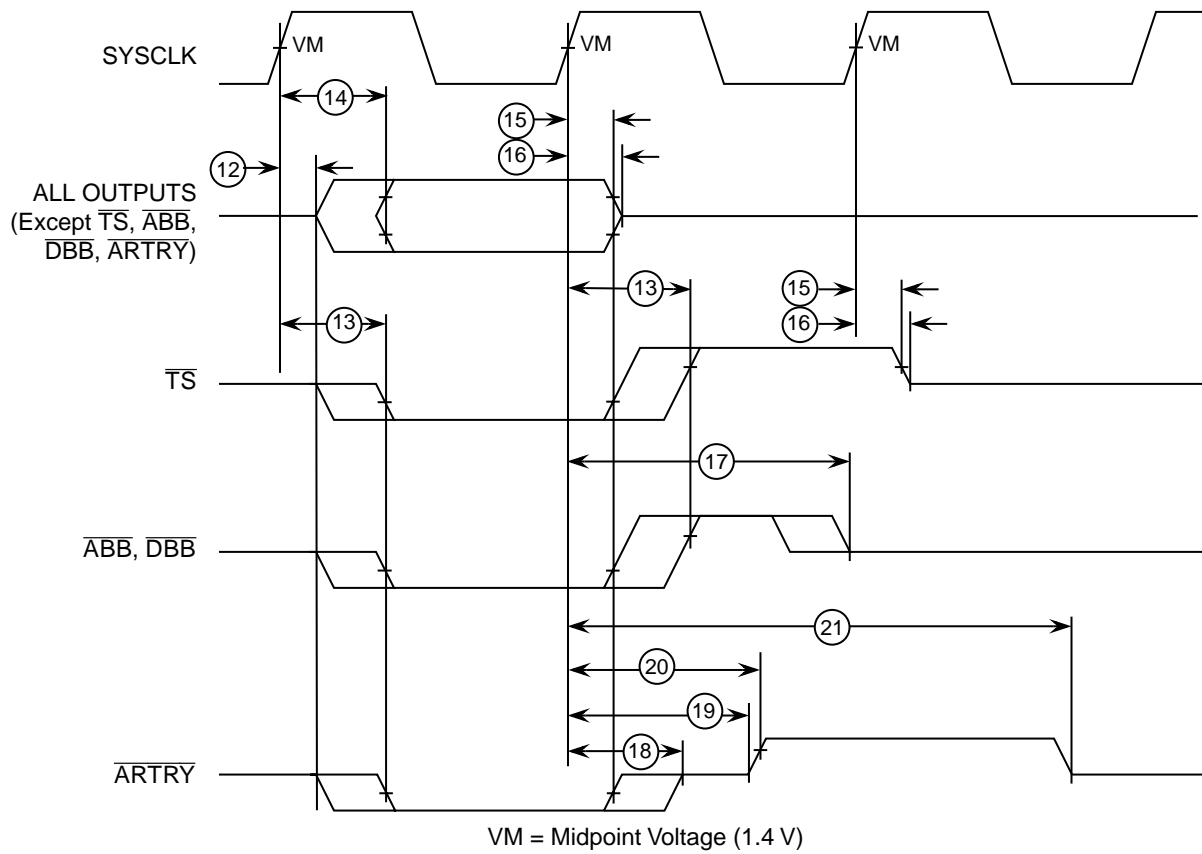

Figure 4. Output Timing Diagram
Table 9 provides the output AC timing specifications for the PID7t-603e as defined in Figure 4.
- All output specifications are measured from the 1.4 V of the rising edge of SYSClk to the TTL level (0.8 V or 2.0 V) of the signal in question. Both input and output timings are measured at the pin (see Figure 4).
Figure 4 provides the output timing diagram for the PID7t-603e.